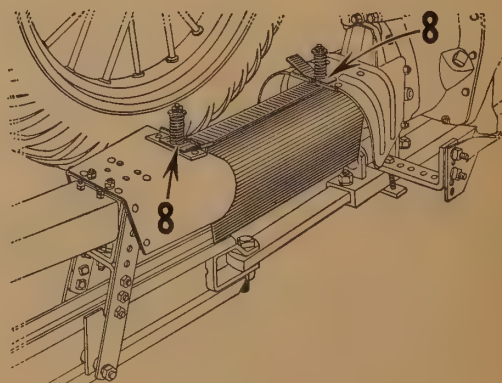

Fig. 16
8. (Fig. 16.) Attach universal joint and pipe connection shield to take-off shaft shield on tractor and to shield on power shaft front bearing as shown.